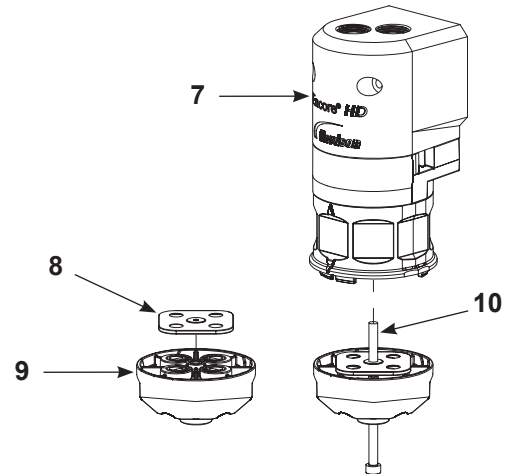

Figure 24 Assemble Gasket and Lower Y Block
3. See Figure 24. Assemble gasket (8) over lower Y block (9), then thread long screw (10) through the lower y block and into the pinch valve housing, upper Y block and purge manifold. Torque screw to 25-30 in.-lb (2.8-3.4 N•m).
- See Figure 24. After the pump is assembled, completely tighten the long screw (10) to fit all components together completely.